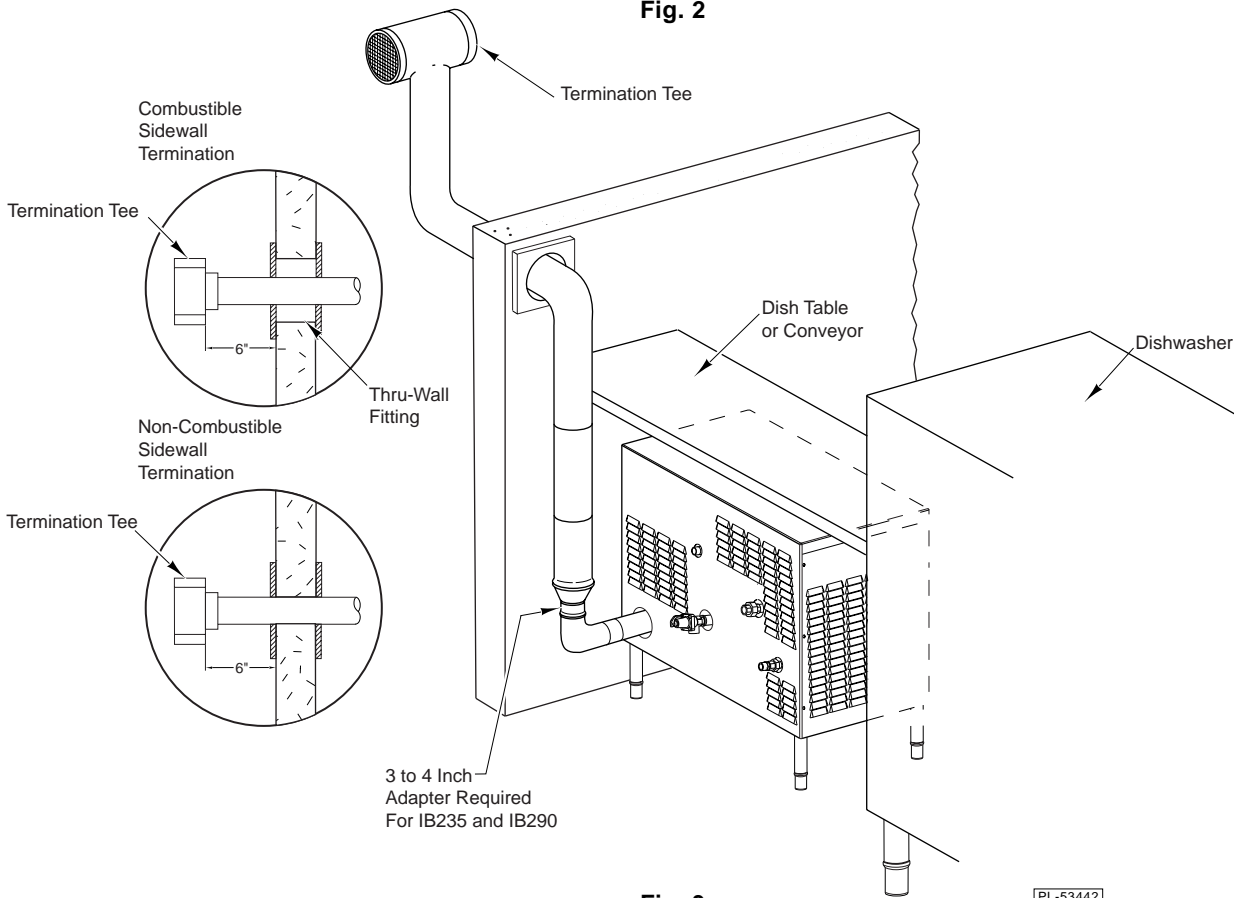

Fig. 3
2. Through the sidewall, or the ceiling (Fig. 3). Type B-1 vent pipe (4 inch minimum diameter for IB57 and IB140, 5 inch minimum diameter for IB235 and IB290) may be used when venting vertically, provided a one inch minimum clearance to combustible construction is maintained and the termination above the roof uses a listed wind cap.